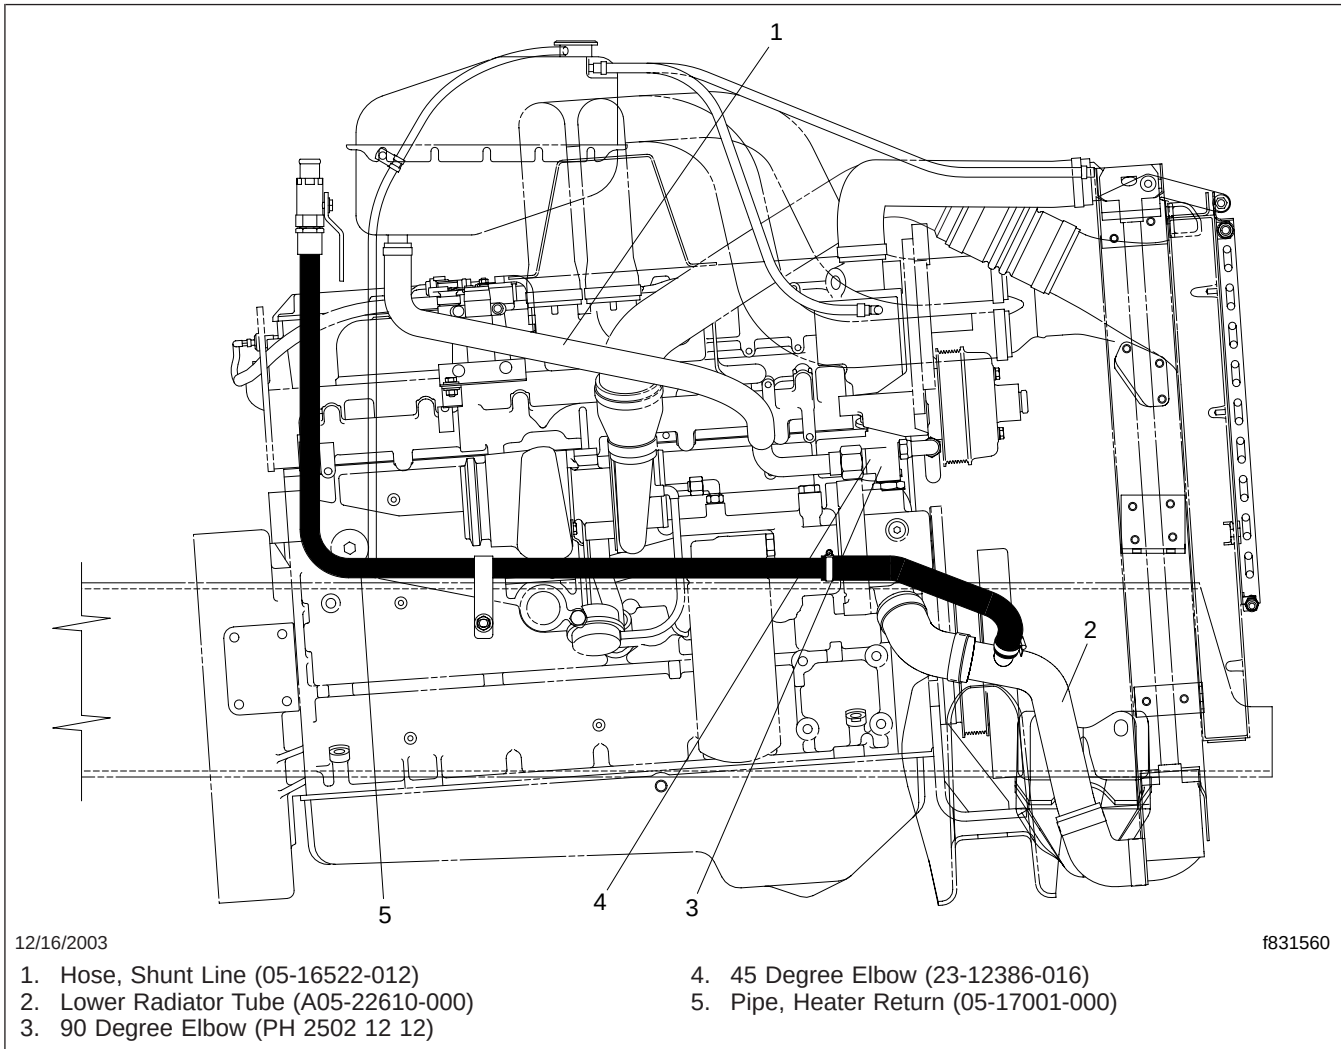

Fig. 1, Heater Hose Assembly Routing
5. Remove the plug on top of the water pump housing and install a 90-degree elbow fitting (part number PH 2502 12 12) and a 45-degree elbow fitting (part number 23-12386-016). See Fig. 1.